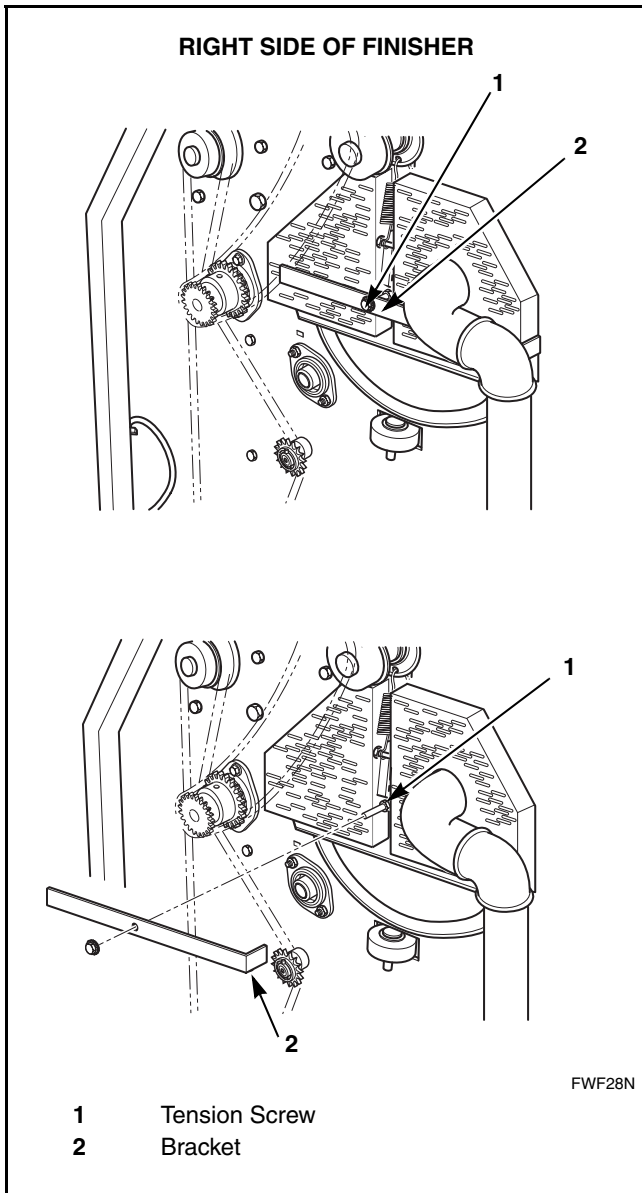

Figure 9
- a. Locate the ironing band tension systems on each side of the finisher. Refer to *Figure 9*.